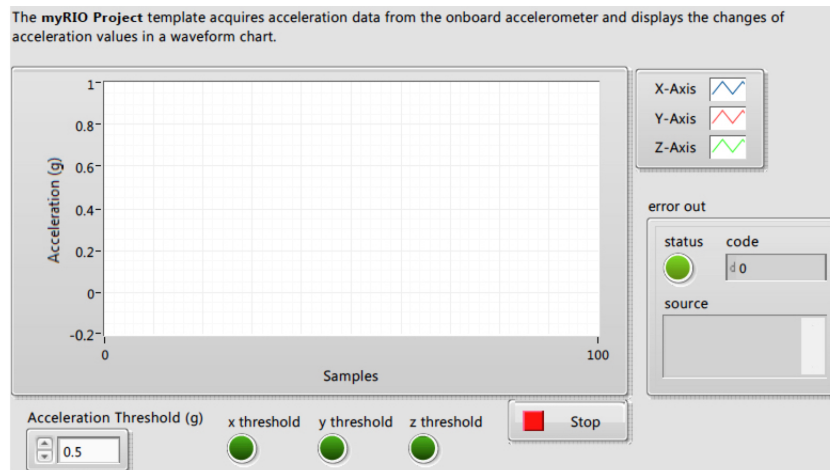

Figure 5: Threshold Indicator application front panel.
5. **Modify the Template VI:** In the block diagram of **Main.vi**, replicate the code shown in Figures 5 and 6: